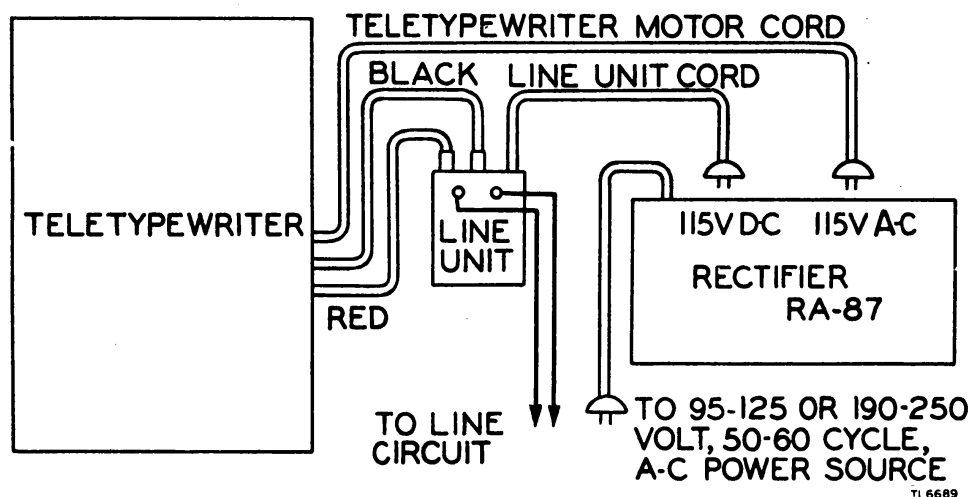

FIGURE 4.—Rectifier RA-87, usual cording diagram.
7. Connections.—*a.* The rectifier ordinarily will be connected to one teletypewriter or similar equipment as shown in figure 4 and on the instruction plate. Be sure that the cord supplying power to the motor of the teletypewriter is plugged into the 115V AC receptacle of the rectifier, *not* the 115V DC receptacle. The d-c plug should be locked tightly in place by turning it in a clockwise direction.